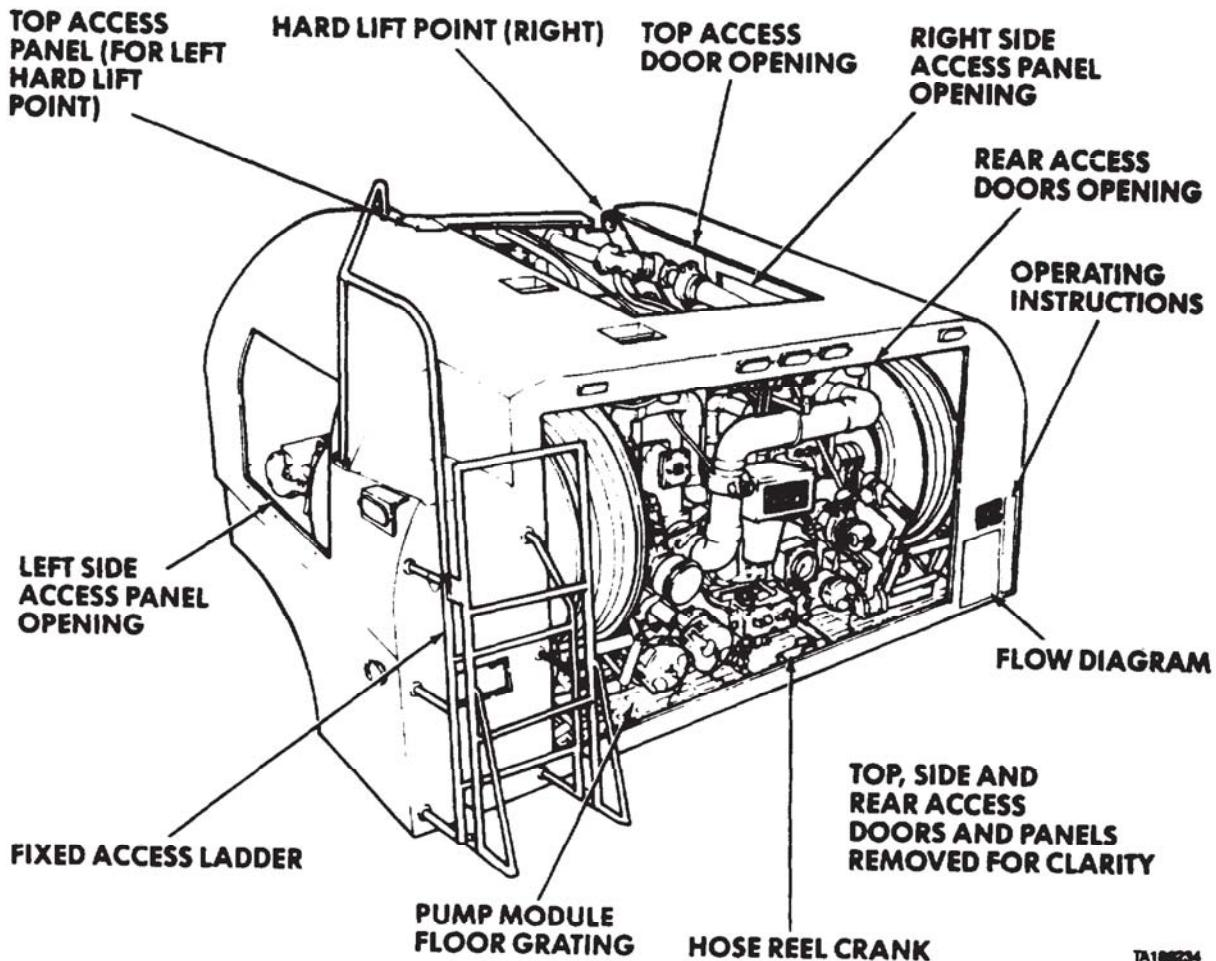

Figure 25-1. Tanker External Components.
- a. Refer to Figures 25-1 through 25-4 to identify M1978 tanker components before beginning any work.